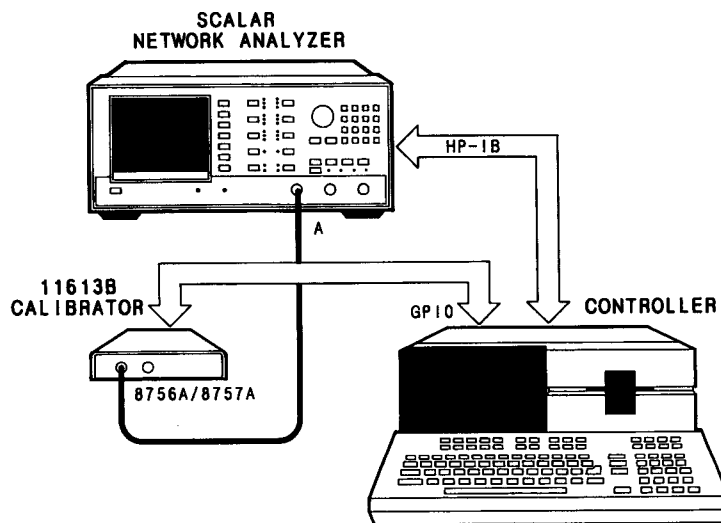

Figure 4-1. HP 8756A Calibration Setup
This section explains how to use the HP 11613B to calibrate and to check the calibration of the HP 8756A scalar network analyzer. Note that NBS traceability of the HP 8756A is confirmed by passing the *Dynamic Power Accuracy* performance test using NBS traceable attenuators as described in the *HP 8756A Operating and Service Manuals*. Much of the information which would normally appear in this section resides in the software supplied with the calibrator itself. Thus to operate the calibrator, you need only connect it as shown in Figure 4-1 and respond to the CRT prompts.
1. Connect the equipment as shown in Figure 4-1 and allow one hour for warm-up of the network analyzer. Observe the operating temperature limits. During this time, leave all of the covers of the HP 8756A on.